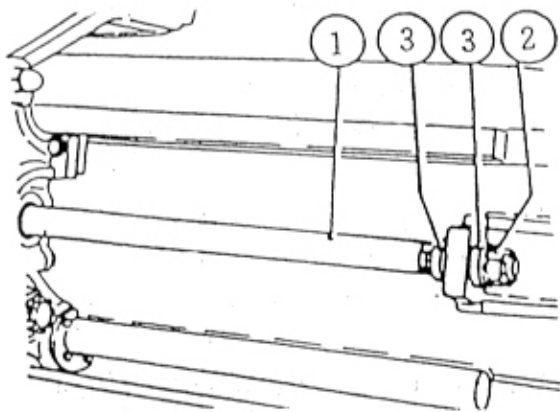

Fig.57
8.9.3 Fasten the piston rod of the blade shift cylinder (Fig 57)
In our works if castle nuts (Fig 57/2) are locked by piston rod, two cone washers (Fig 57/3) can be turned by hand.
Note: When repairing or changing the cylinder, fasten the piston rod in the same way (Fig 57/1)